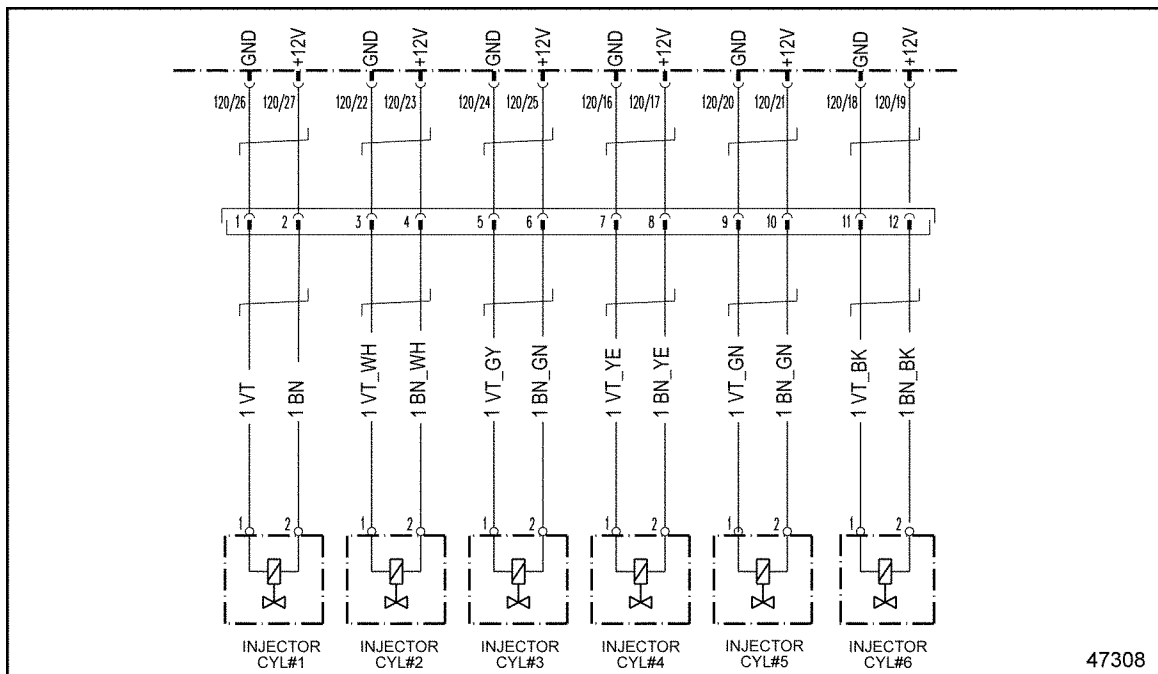

Figure 25-2 MBE 900 Injectors
3. Measure the resistance between pin 3 of injector #2 and ground on the valve cover side of the Injector Harness 12-pin connector. See Figure 25-2.